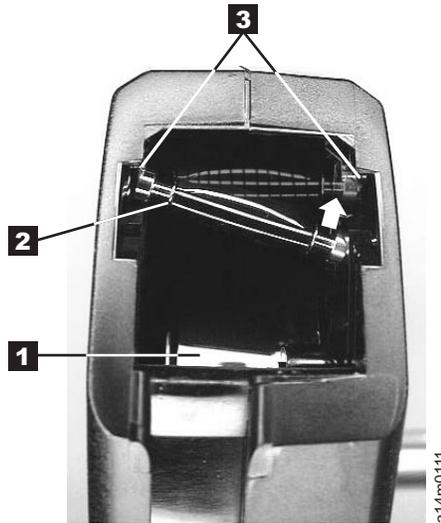

Figure 66. Placing the dislodged leader pin into the correct position. The cartridge door is open, showing the leader pin out of position.
1. Slide open the cartridge door (see **1** in Figure 66 on page 282) and locate the leader pin **2** (you may need to shake the cartridge gently to roll the pin toward the door).